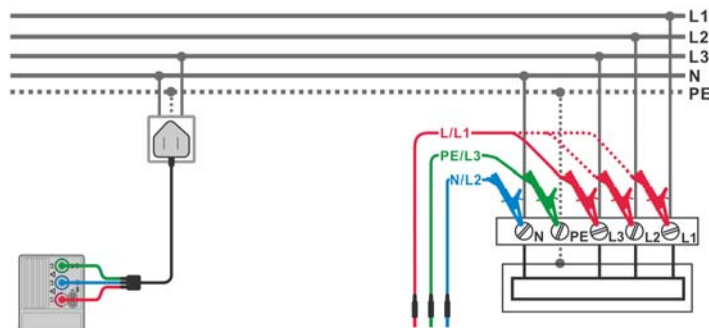

Figure 5.30: Phase-neutral or phase-phase line impedance measurement
- ❑ **Connect** the test leads to the installation wiring to be tested (see Figure 5.30).